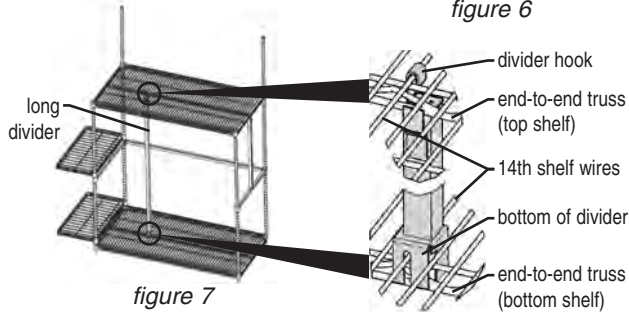

figure 7
- Bottom of divider is to fit between shelf wires and truss. See figures 7 and 7a.